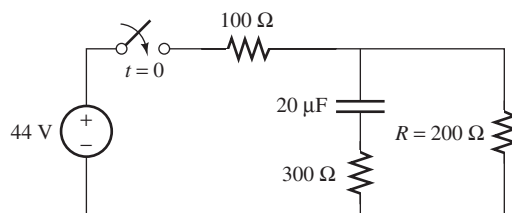

FIGURE P5.33 Circuit for Problem P5.33.
- 5.33 (B) Consider the circuit in Figure P5.33. The switch closes at $t = 0$. Determine $i_C(0^+)$, and the current flow across the resistor R at both $t = 0$ and $t = \infty$.